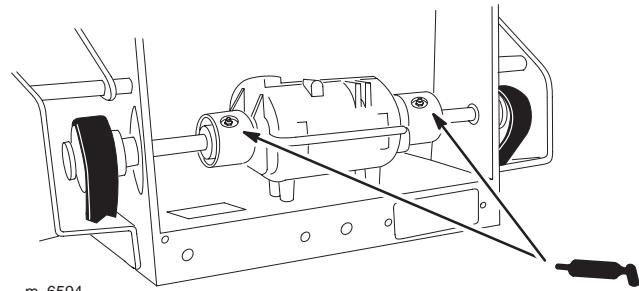

Figure 38
1. Lubricate the transmission couplers located in the back of the machine (Fig. 38).